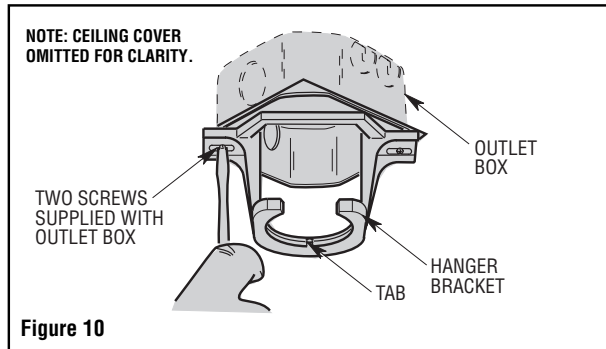
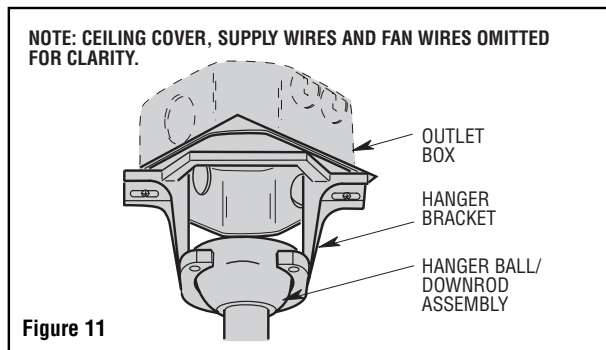

Figure 10
Figure 11
1. Securely attach the hanger bracket to the outlet box using the two screws supplied with the outlet box. (Figure 10.)
2. Carefully lift the fan and seat the hanger ball/downrod assembly on the hanger bracket that was just attached to the outlet box (Figure 10). Be sure the groove in the ball is lined up with tab on the hanger bracket (Figure 11).